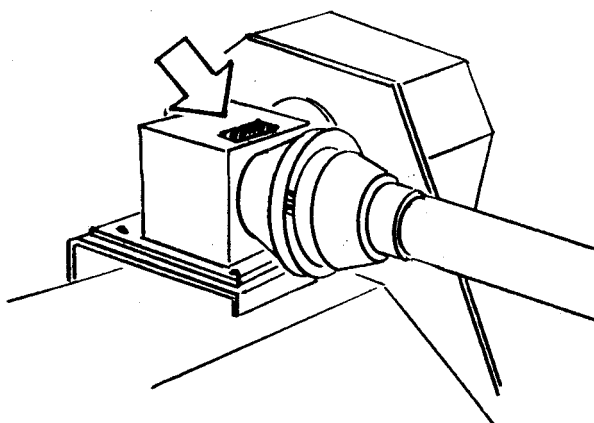

FIG. 11
- Check that the number of revolutions and the rotational direction of the power take off correspond to those required by the shredder (FIG. 11).
Before using the shredder check the tightness of all bolts and the integrity of all guards. Check that the number of revolutions and the rotational direction of the power takeoff of the tractor correspond to those required by the shredder, see decal on the gearbox (FIG. 11) Engage the power takeoff at low engine RPM (without jerking) to avoid damaging the transmission (gearbox and belts).